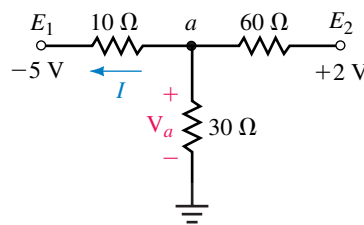

FIGURE 9-77
3. Use superposition to solve for the voltage V_a and the current I in the circuit of Figure 9-77.